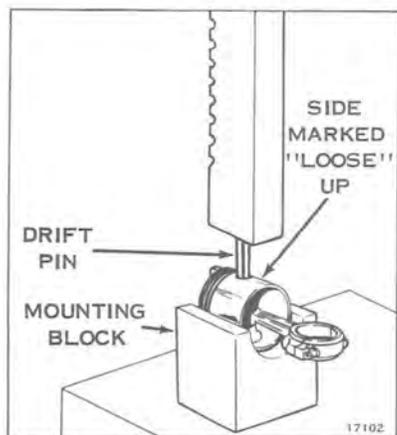

Figure 9-8
- q. If necessary to remove connecting rods from pistons, remove wrist pin retaining rings, using screwdriver in slot in piston. Press out wrist pin to free piston from connecting rod. See Figure 9-8. Piston wrist pin hole marked "Loose" should be up when pressing out wrist pin to prevent piston damage.